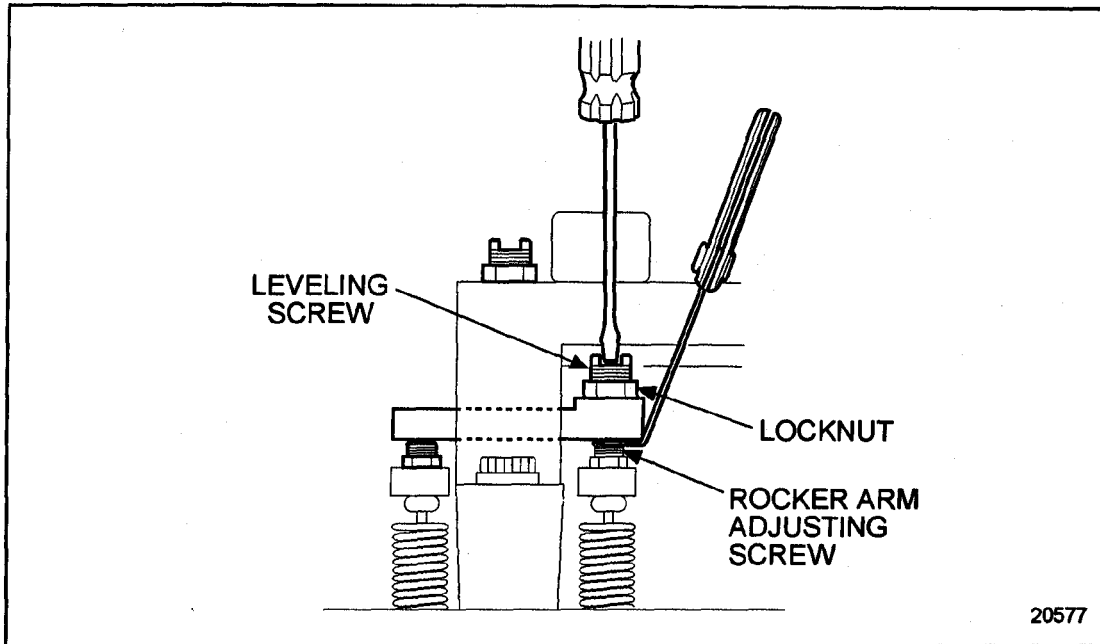

Figure 12-9 Adjusting Leveling Screw
5. Place the feeler gage from step 4 between the leveling screw and the rocker arm adjusting screw. Turn the leveling screw clockwise until a light drag is felt on the feeler gage. See Figure 12-9.